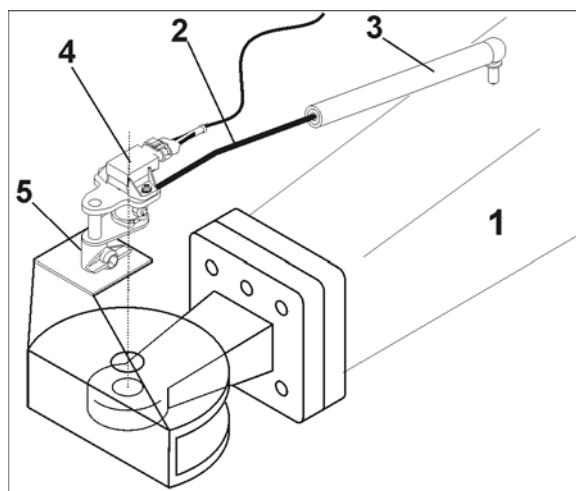

Fig. 43
AutoTrail tracking control for automatic, virtually 100% precise tracking captures the position of the angle of the drawbar (Fig. 43/1) to determine the direction of travel of the tractor.
1. Insert the rod (Fig. 43/2) into the plastic bush (Fig. 43/3) stecken.
2. Insert the position encoder (Fig. 43/4) into the holder (Fig. 43/5).